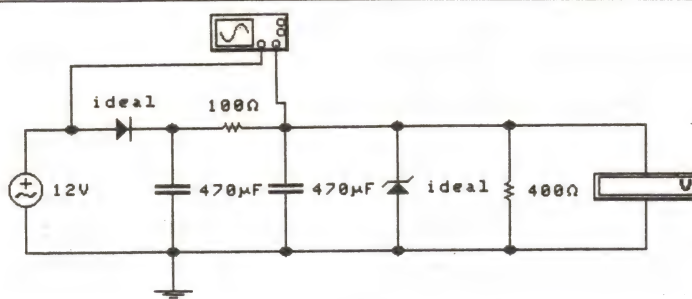

Fig. 3.21 Half-wave rectifier with smoothing filter and Zener diode regulator (Assignment 3.3).
8. Finally, add a 5-1V Zener diode in order to regulate the output voltage (see Fig. 3.21). Record the measured value of output voltage and peak-peak ripple voltage.